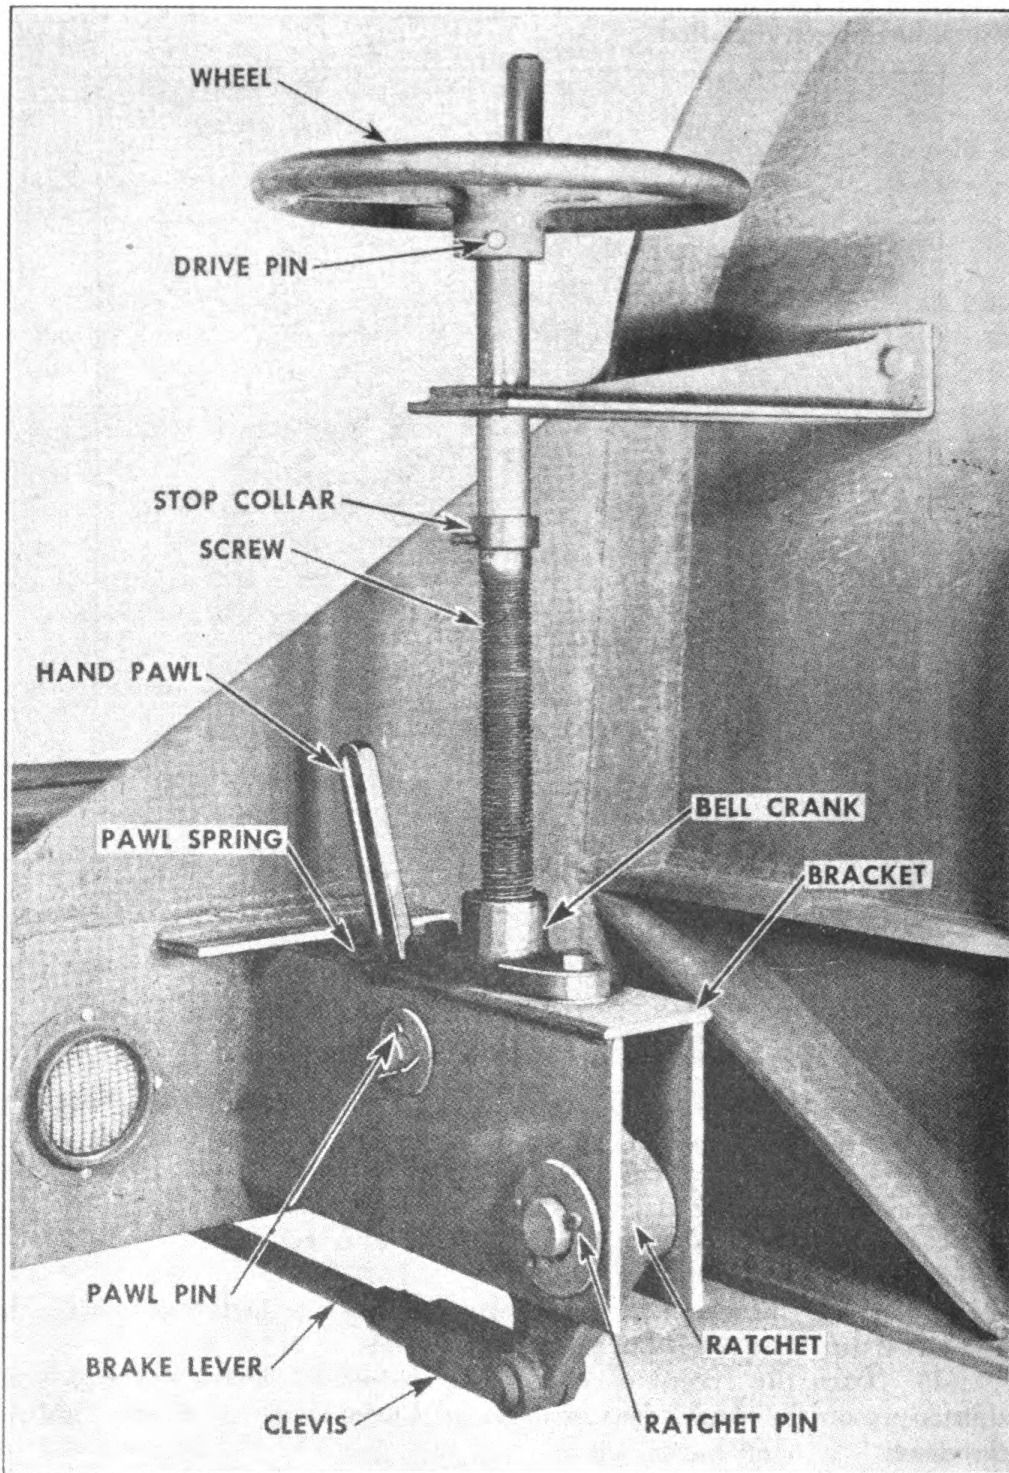

FIGURE 22. HAND PARKING BRAKE
(6) Tighten lock nuts on the anchor pins while holding anchor pins firmly in position with a wrench.
11. HAND PARKING BRAKE REPLACEMENT (Fig. 22).—*a.* The hand parking brake is located on the right side, at the drop in frame. Turning the wheel in a clockwise direction applies the brakes.
b. Replacing the wheel.—(1) Drive out the drive pin and tap handle off screw.
c. Replacing screw.—(1) Loosen set screw in stop collar and turn wheel in a counter-clockwise direction until screw is turned out of bell crank.
(1) Shorten brake rod at hand brake ratchet as shown in Figure 22.